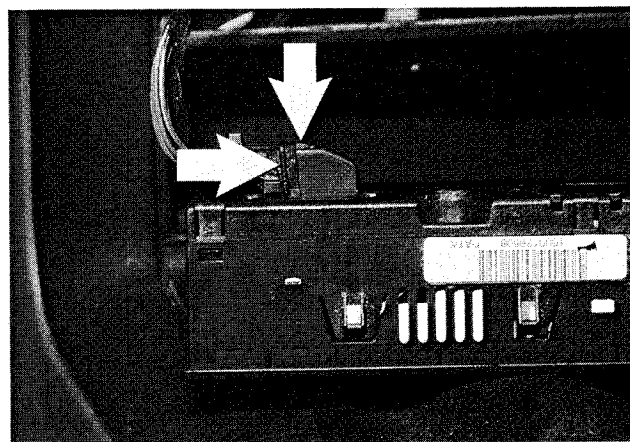

Fig. 10. MID wiring harness release lever (arrows).
2. Slide harness retaining lever forward to release MID from wiring harness. See Fig. 10.